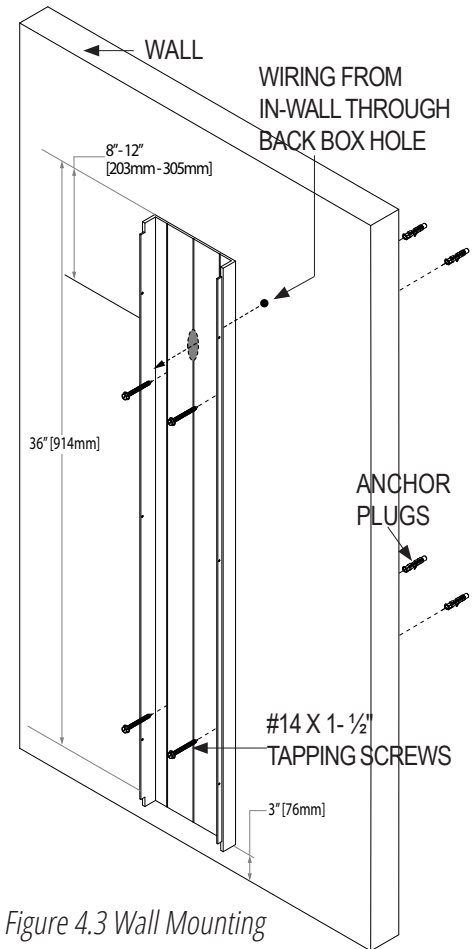

Figure 4.3 Wall Mounting
12. Secure the Back Box to the wall with the #14 x  $1\frac{1}{2}$ " tapping screws provided. (Figure 4.3 and 4.4)
12. Secure the Back Box to the frame with the  $\frac{1}{4}$ "-20 machine screws. (Figure 4.3 and 4.4)